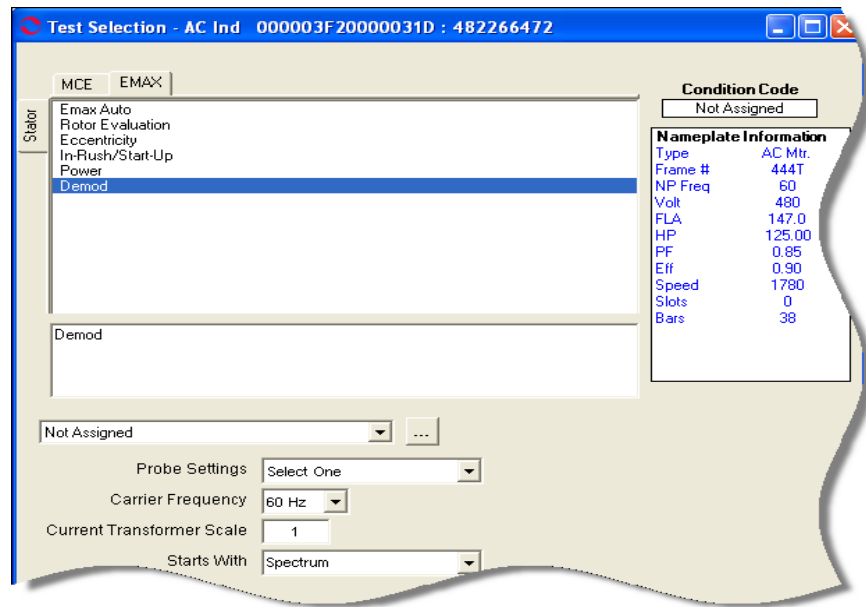

Figure 6-26: Demod Test Selection Window
4. Select the Test Selection icon  on the toolbar. The Test Selection window, shown in Figure 6-26 opens.